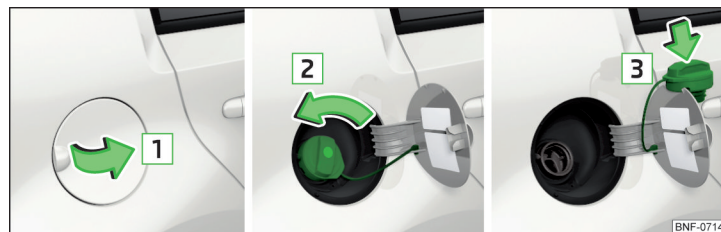

Fig. 135 Opening the fuel filler flap / unscrewing the tank cap / placing the tank cap on the fuel filler flap
- Open out the fuel filler flap in the direction of arrow **1** » Fig. 135.